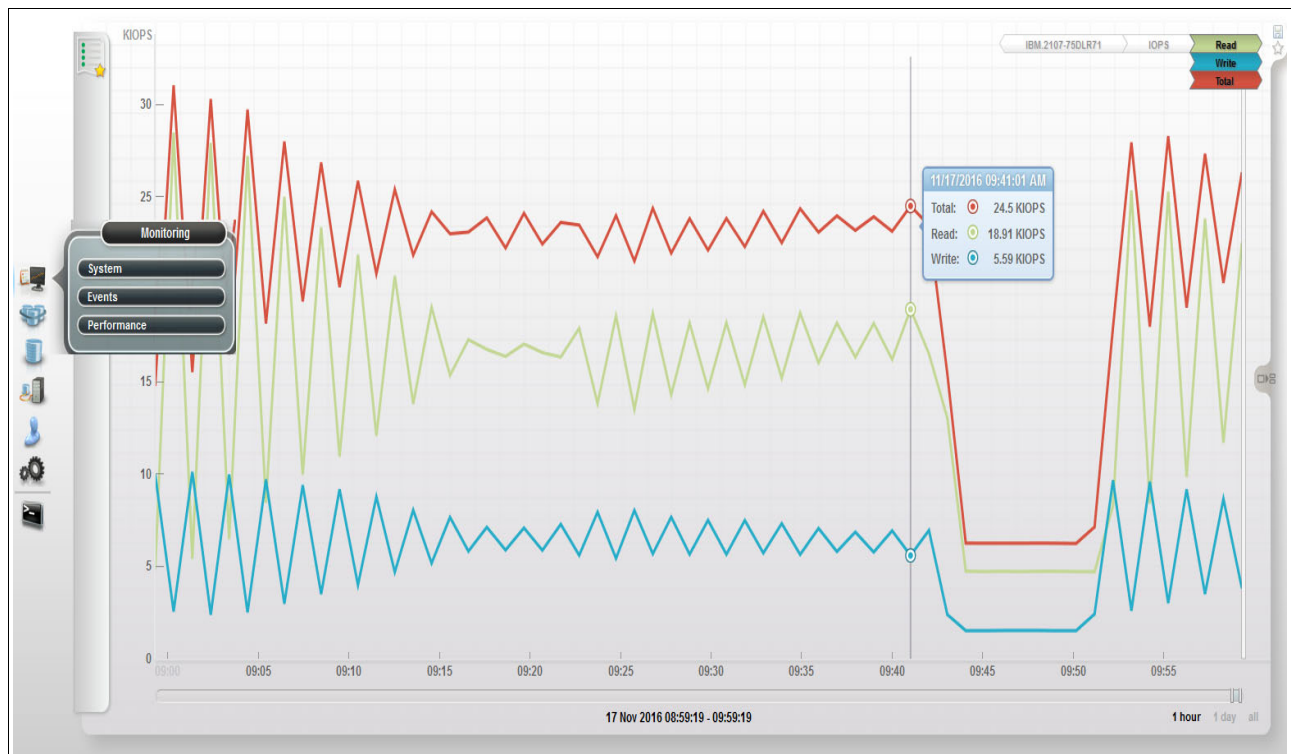

Figure 11-101 Performance monitoring window
2. Click **Performance** to display graphs that track performance indicators, as shown in Figure 11-101.